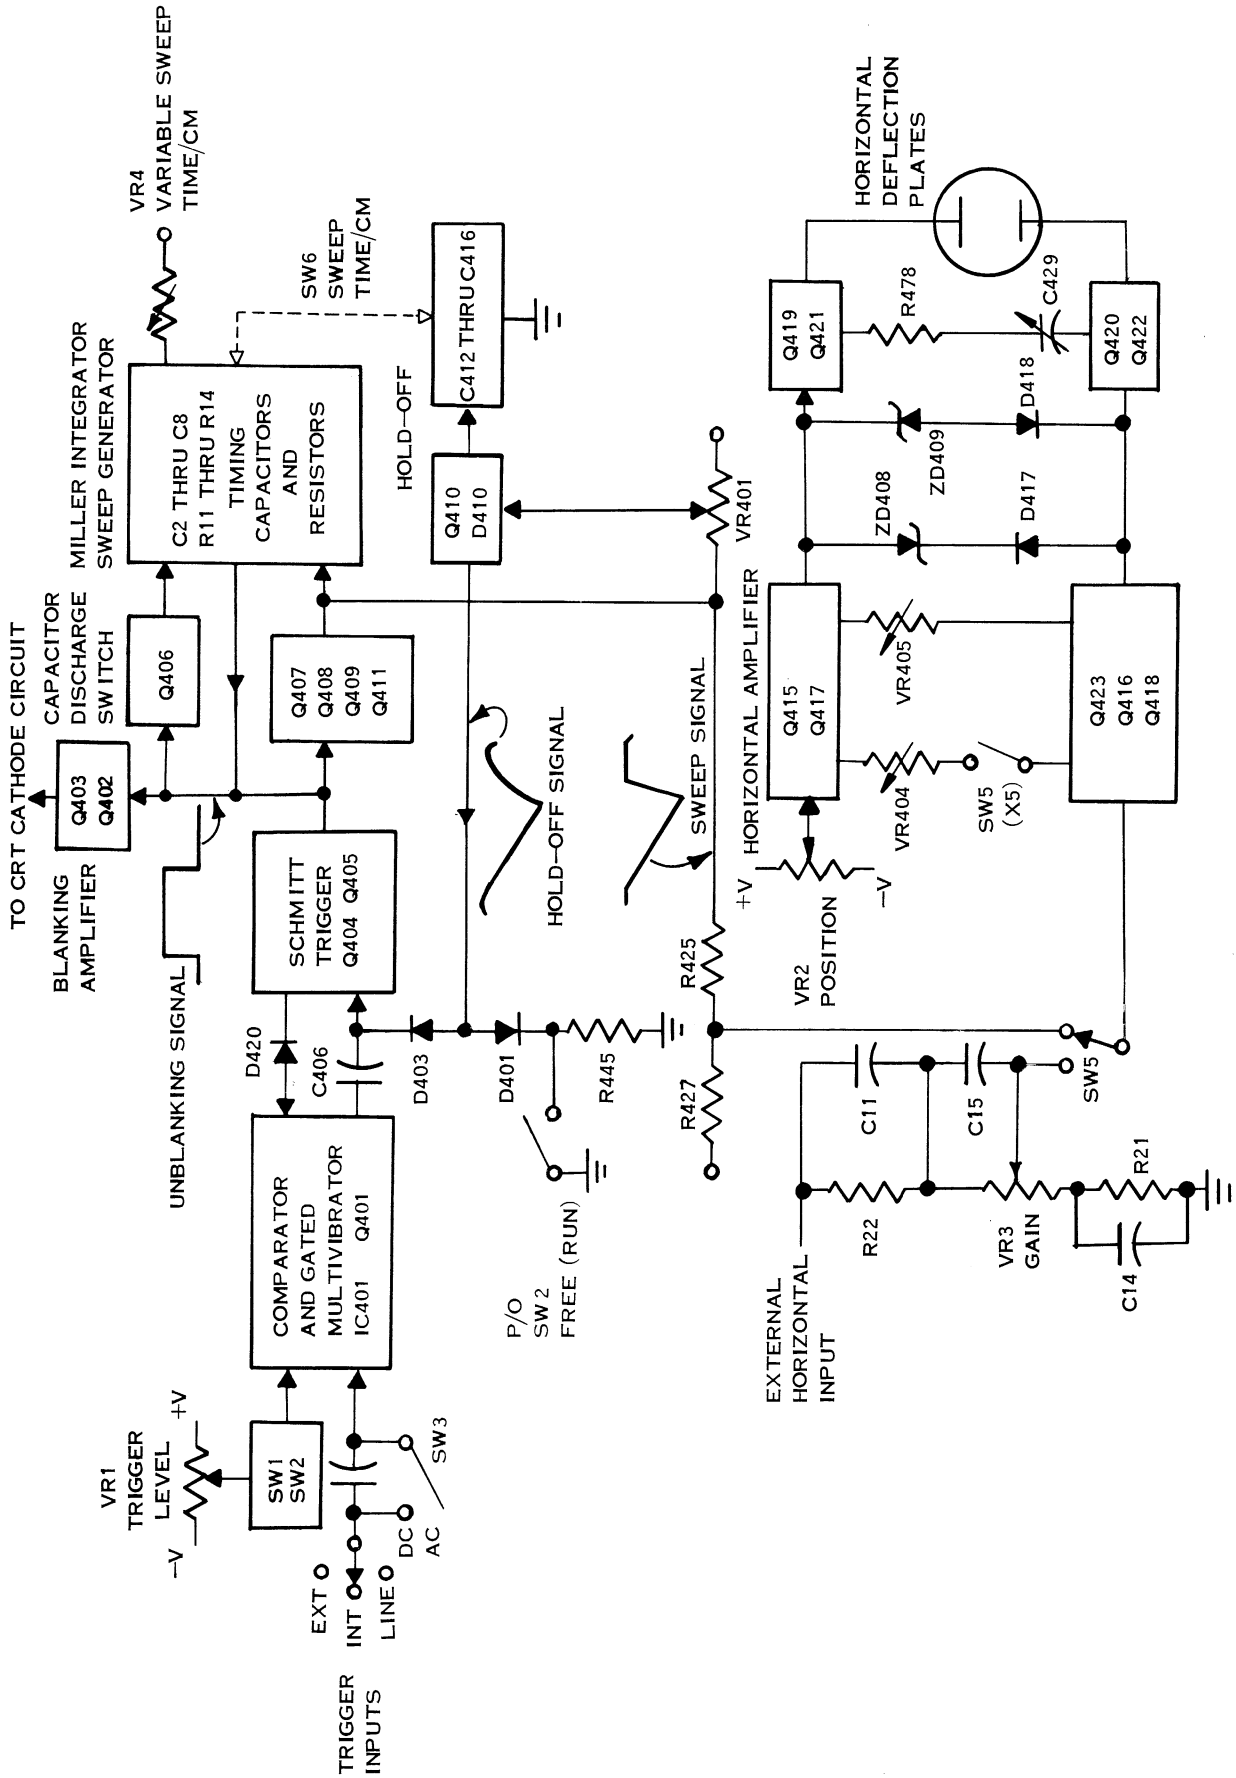

Figure 5-3. Horizontal System Simplified Block Diagram
5.3 HORIZONTAL SYSTEM DETAILED BLOCK DIAGRAM (Refer to Figure 5-3).